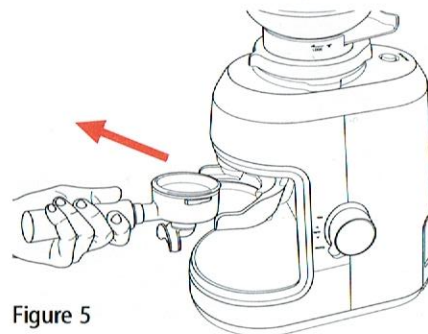

Figure 5
9. Once the basket is full, remove the group handle from the group handle cradle. See figure 5. Collapse the coffee in the basket by tapping it on the bench. Repeat the grinding process until the desired amount of coffee has been ground and tamp to finish.